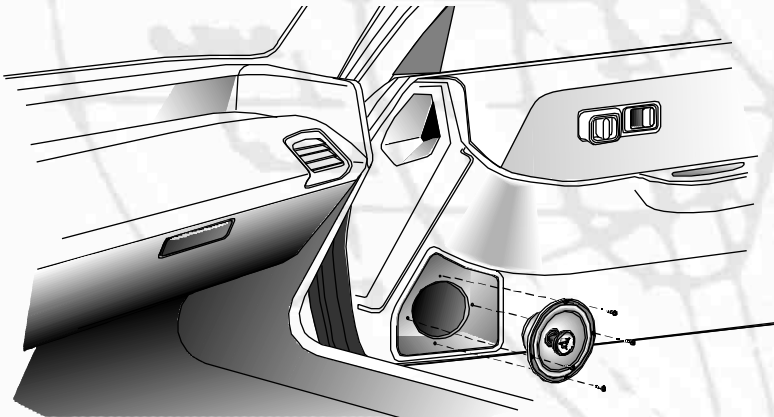
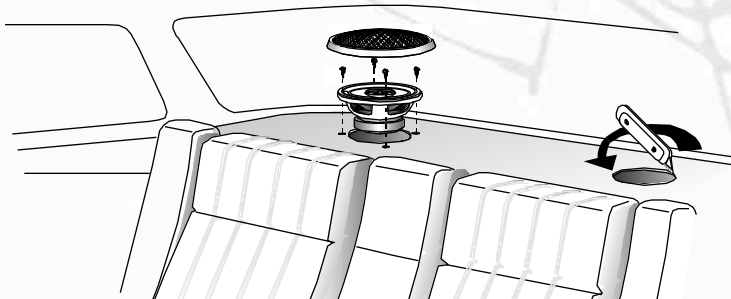

Figure 1 - Factory "Drop In" location in door.
Figure 2 - Creating new speaker location in rear deck.
1. Many vehicles already have factory locations (Figure 1.) to house the "DROP IN" feature of the Tantrum Coaxial line. If no existing locations are available or are not used (Figure 2.), check the desired location for adequate cutout area and any depth obstructions. Make sure to allow sufficient clearance for window tracks, structural braces, trunk lid springs, etc.